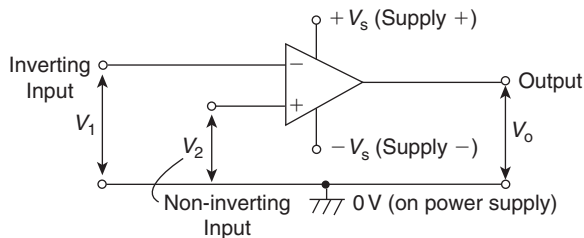

Figure 19.1
- (iii) a very low output impedance, around  $100 \Omega$ , such that its output voltage is transferred efficiently to any load greater than a few kilohms. The **circuit diagram symbol** for an op amp is shown in Fig. 19.1. It has one output,  $V_o$ , and two inputs; the **inverting input**,  $V_1$  is marked  $-$ , and the **non-inverting input**,  $V_2$ , is marked  $+$